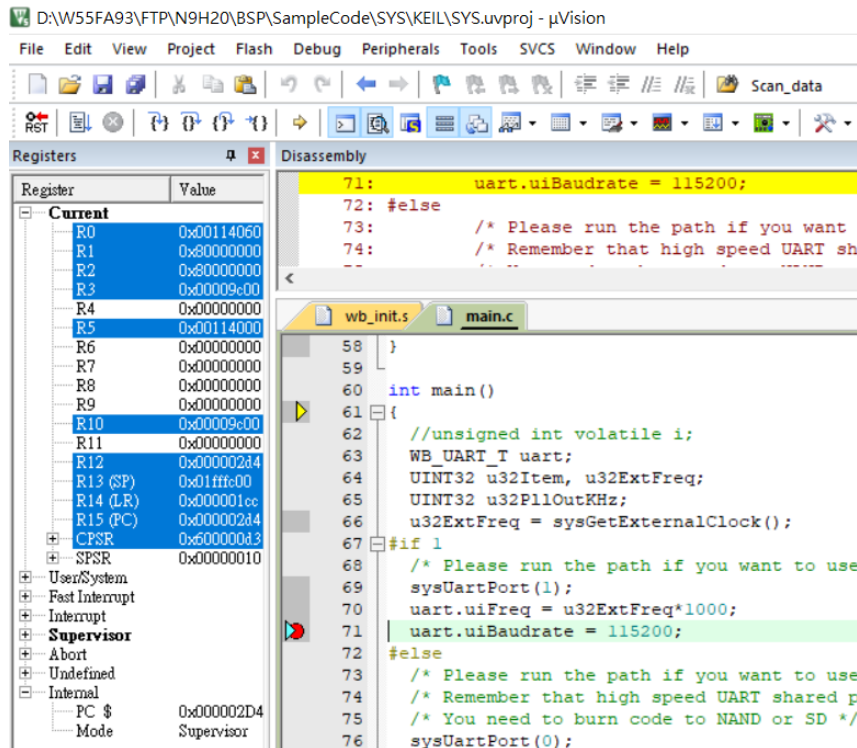

Figure 2-14 Set Breakpoint
- A breakpoint can be enabled and disabled by left-clicking on its icon as shown in Figure 2-14.